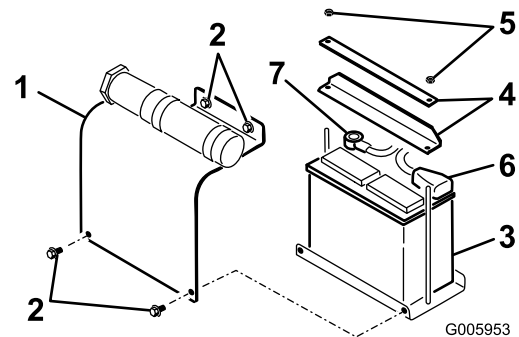

Figure 5
1. Remove the four bolts securing the battery cover and remove the cover (Figure 5).
2. Remove the nuts and bars which will secure the battery (Figure 5).
5. Install the battery onto the platform (Figure 5).
6. Secure the battery in the chassis with the bars and nuts removed previously (Figure 5).
7. Connect the positive (red) cable to the positive (+) battery post (Figure 5). Slide the rubber cover over the battery post.
8. Connect the negative (black) cable to the negative (-) battery post (Figure 5).
9. Install the battery cover (Figure 5).